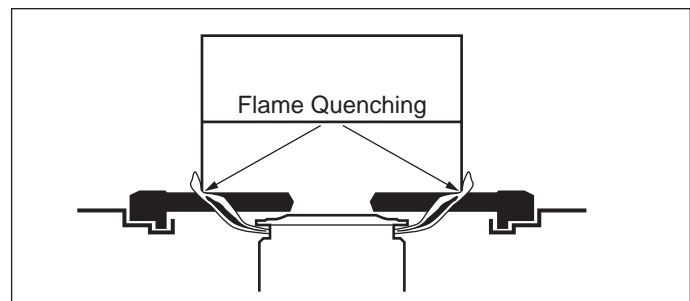

Figure 7
**FLAME QUENCHING** occurs as a result of the gas flame cooling before the supplemental air (Secondary Air) can mix with the gas flame for complete combustion. One of the most common causes of flame quenching is the burner grate too close to the burner head, resulting in the flame contacting the bottom of the pan. The pot will absorb the heat before complete combustion can take place. (See Figure 7)